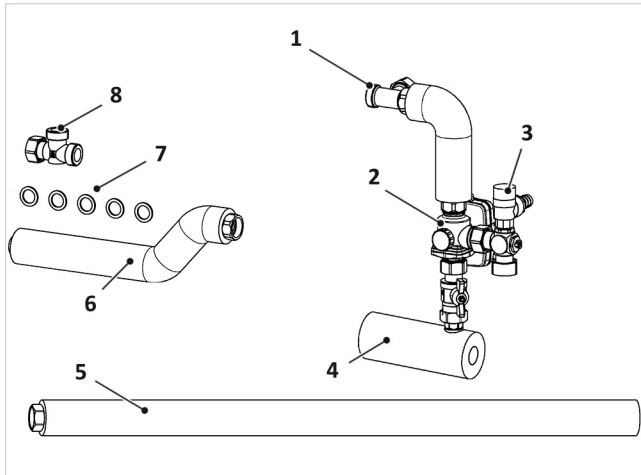
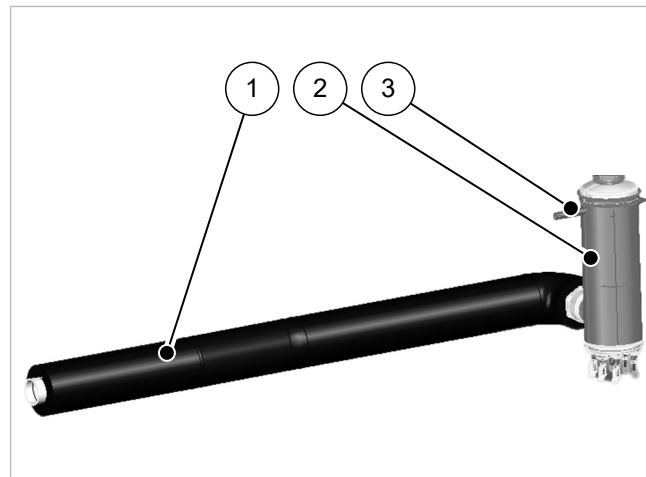

Fig. 24: Assembly pack for LM-WP 3-way valve:
Fig. 29: Heating cartridge with HP flow pipe
When the SolvisMax Solo is combined with the SolvisPia, SolvisMia or SolvisLea Eco, the charging modules PIA-SL and LEA-SL/MIA-SL the heating cartridge (HPT) supplied must also be integrated in the heating pump flow. This "Assembly pack LM WP-SL HPT" (→ Fig. 29) replaces the "Connection pipe WP-VL", cf. → Fig. 24 (5).